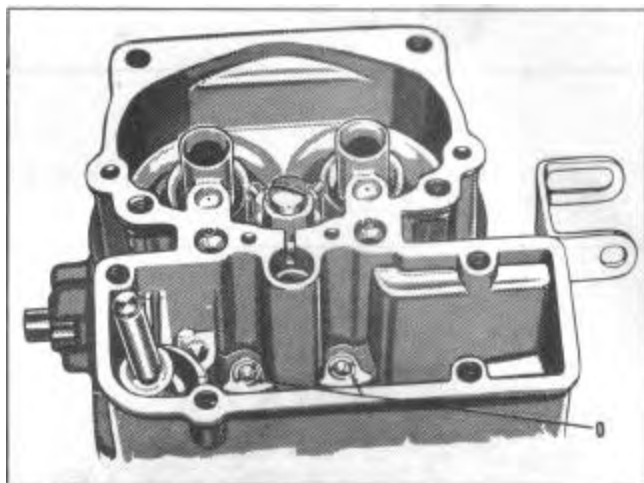

FIGURE 77
13. Install metering rod jets, Figure 77. (No gaskets are used.)